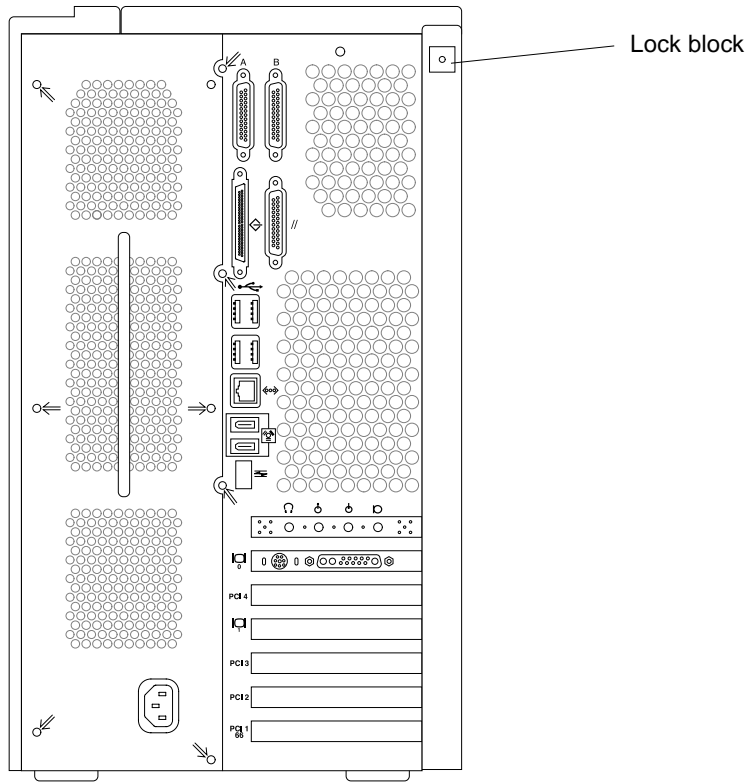

FIGURE 9-2 Lock Block Location
6. **Replace the lock block (if necessary) (FIGURE 9-2).**